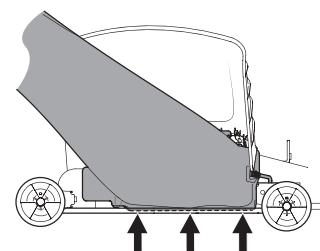

Figure 21
- IMPORTANT:** Be certain that the bottom of the discharge chute is located inside of the lip of the deck opening, as shown in Figure 21.